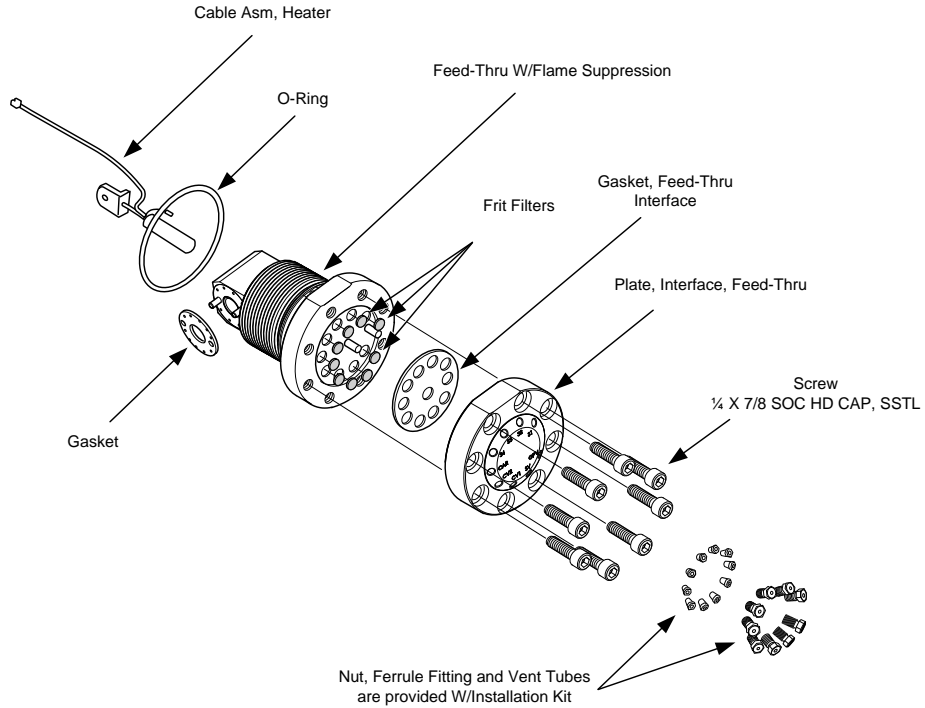

Figure 5-3 Feed Through Assembly, Exploded
- Feed-through assembly without preheat (see Figure 5-3)